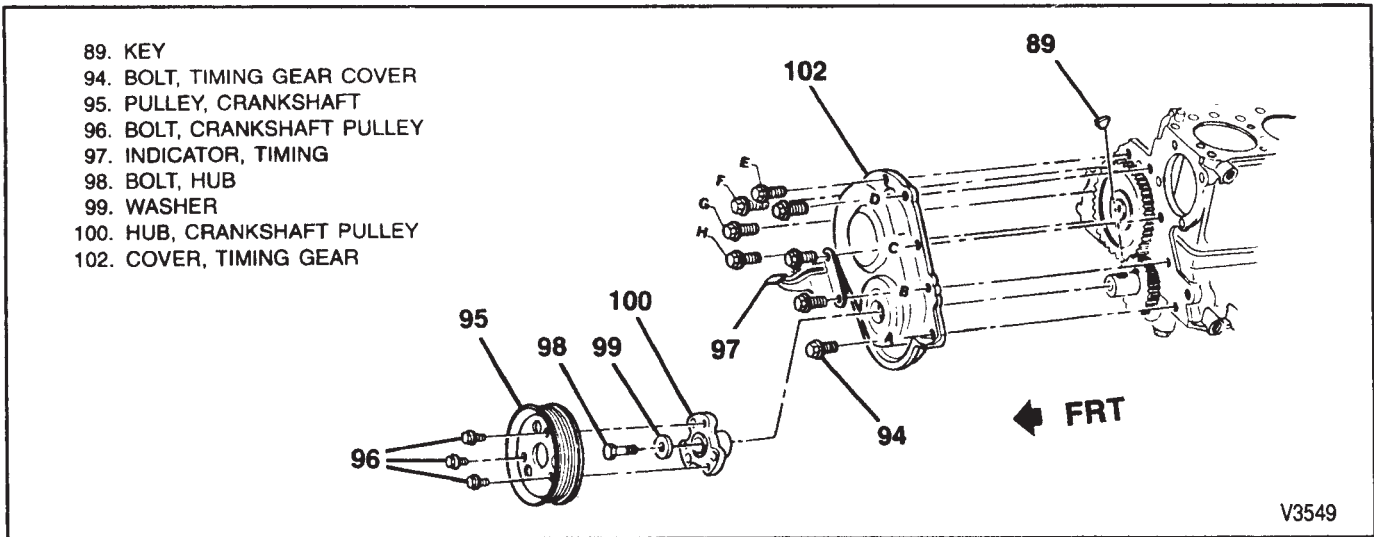

Figure 14—Timing Gear Cover and Components
### ↔ Remove or Disconnect (Figures 14 and 15)
### ↔ Install or Connect (Figures 14 and 15)
### ↔ Remove or Disconnect (Figures 14 through 16)
**Install or Connect (Figures 14 through 16)**
3. Bolts (94).
- Bolts (94) using the sequence shown in figure 14 (A through H), to 10 N.m (90 in. lbs.).